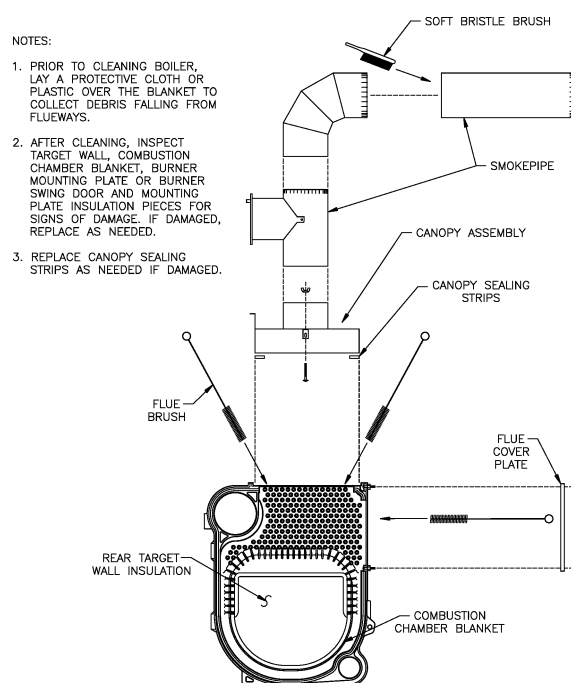

Figure 15: Cleaning of Boiler Flueways
A. CLEAN THE FLUEWAYS (See Figure 15).